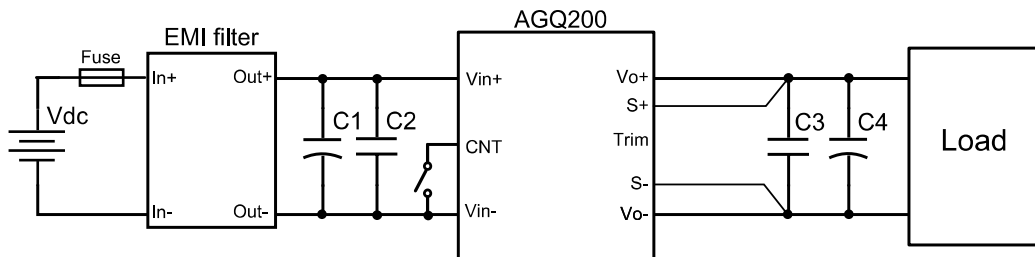

Figure 11 Typical application
Figure 5 Dynamic response for 25% load step (25% ~ 50% ~ 25%) and 0.1A/ μ s slew rate, (0.5ms/div), see Figure 11 for test configuration; CH1-output voltage (100mV/div); CH2-output current (20A/div)
Figure 6 Dynamic response for 25% load step (50% ~ 75% ~ 50%) and 1A/ μ s slew rate, (0.5ms/div), see Figure 11 for test configuration; CH1-output voltage (200mV/div); CH2-output current (20A/div)
- C1 ~ C4: See Figure 11